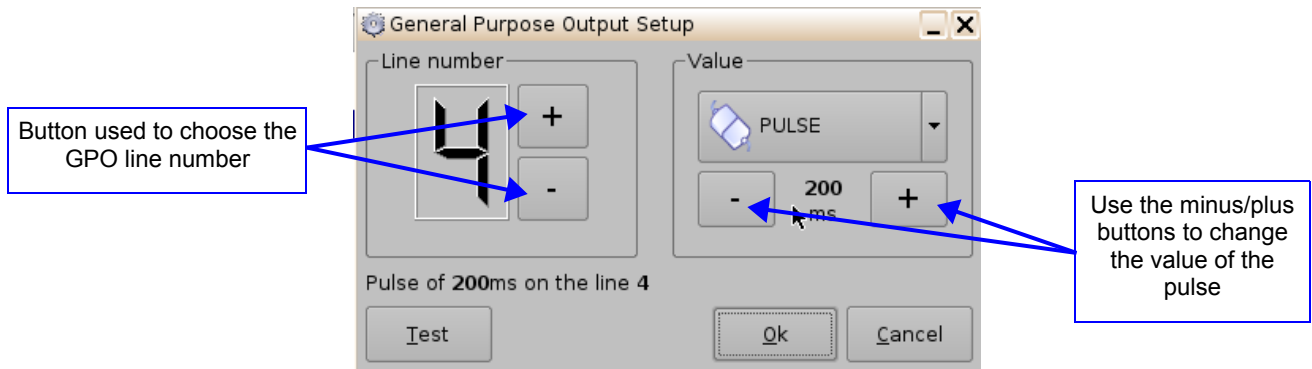

Figure 183: GPO Setup Window
- The following window will appear (Figure 183):